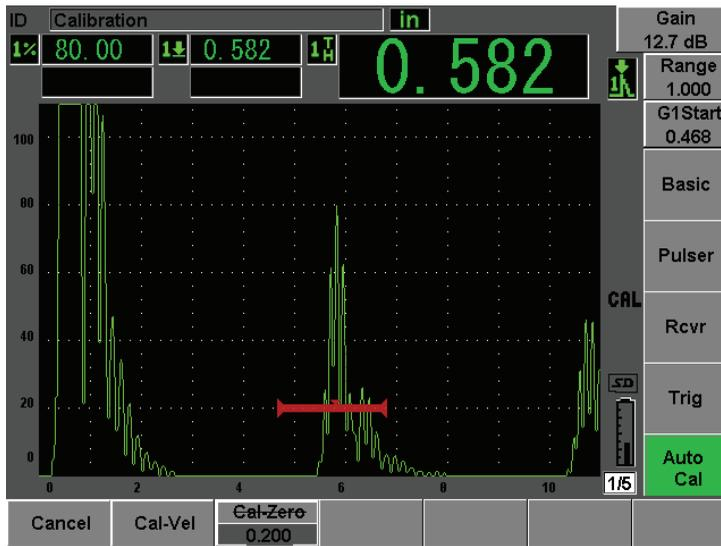

Figure 10-3 Example of a gated signal for velocity calibration
8. Adjust the value to match the known thickness of the gated indication (0.200 in. in this example), and then choose **Continue** to continue to the second calibration step (see Figure 10-3 on page 156). The thickness value used in this part of the calibration will be stored for reference in the **Cal-Zero** parameter box.